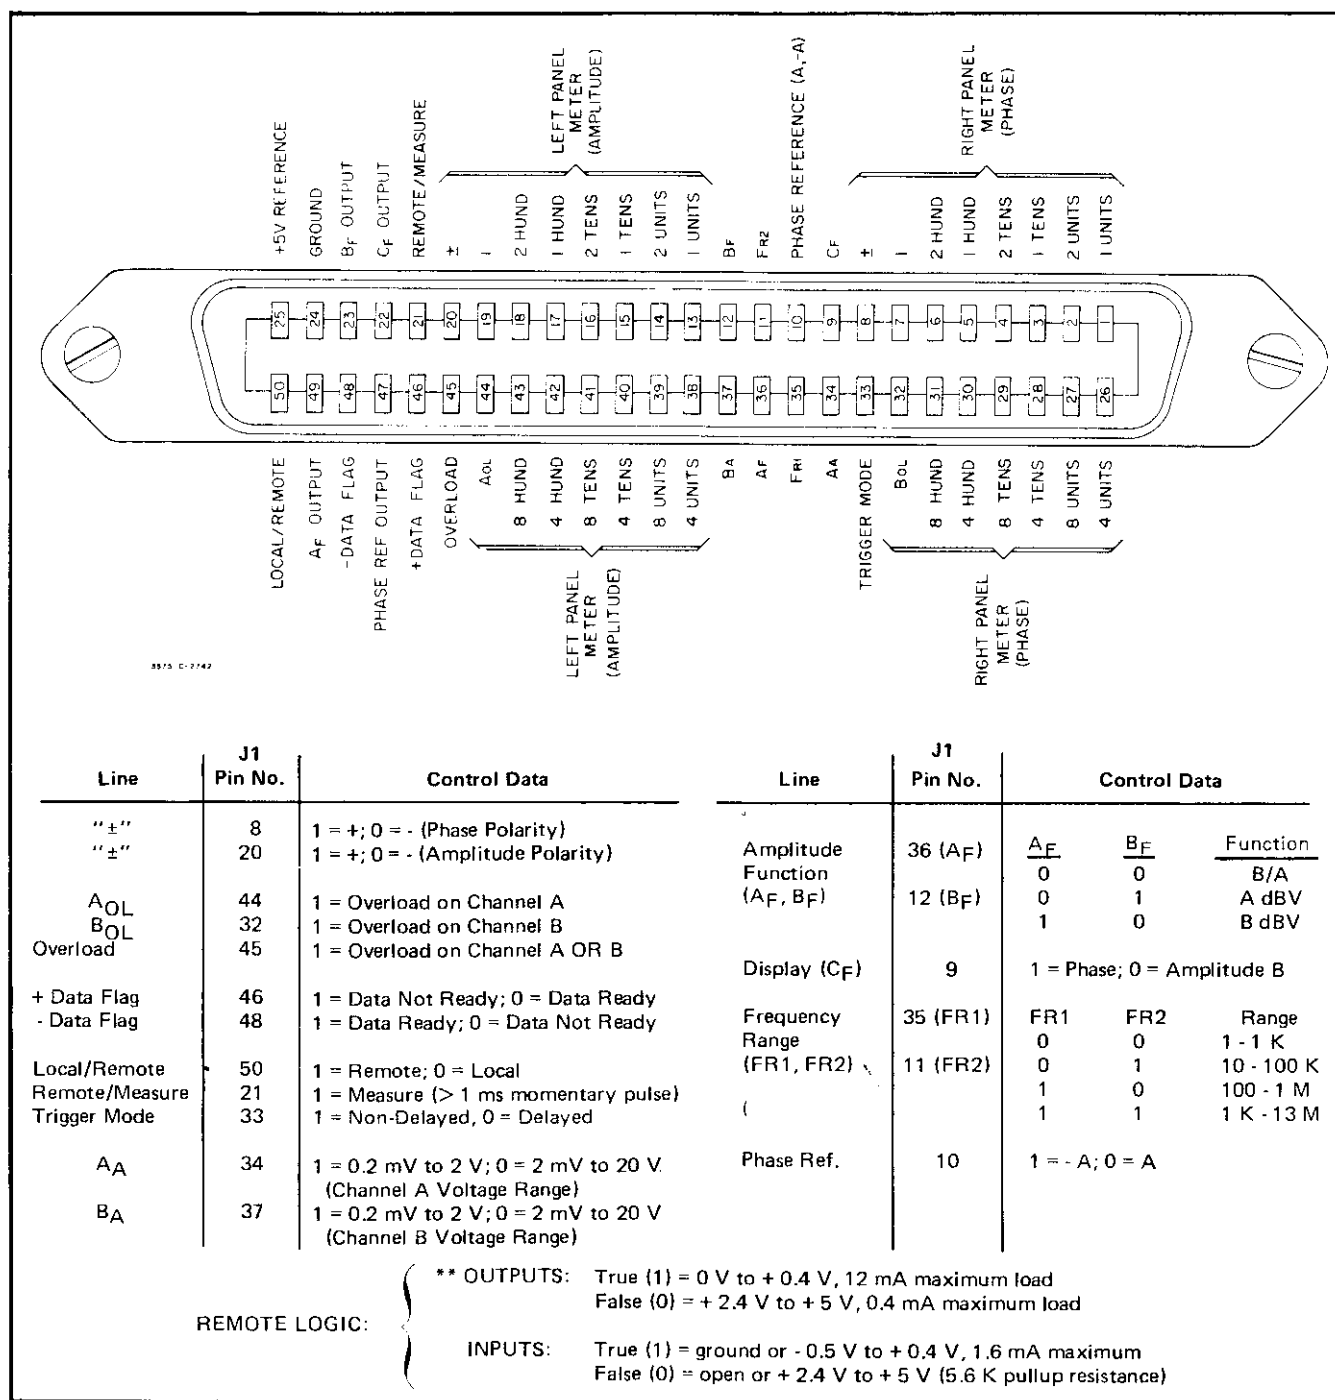

Figure 3-9. Remote Pin Connections.
**3-74. Remote Pin Connections.** Figure 3-9 illustrates the 3575A Option 002 Interface connector as viewed from the rear of the instrument. The connector diagram and the table within the figure provides complete programming information. A 50-pin mating connector (-hp- 1251-0086)\* and a 46-conductor cable are required for a complete remote programming capability (including remote control lines, BCD outputs, overload outputs, data flags, + 5 V and circuit ground).